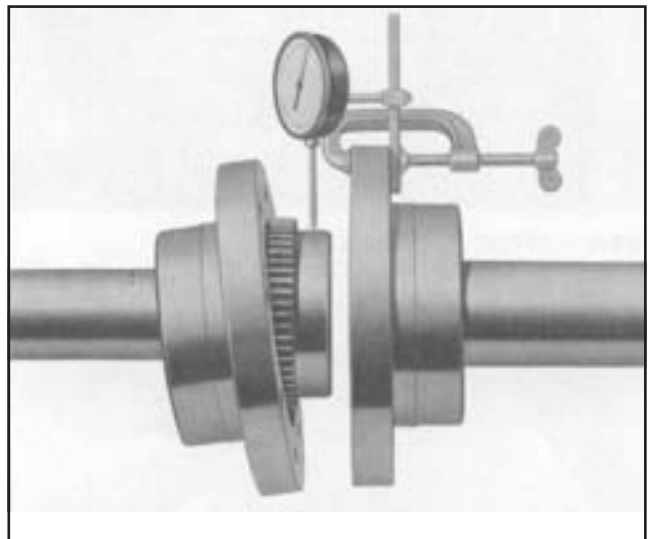

Figure 2 — Offset Alignment (Different Hub Styles)
- A. MOUNT DIAL INDICATOR — Securely attach dial indicator to hub most easily rotated with a magnetic base or C-clamp. Be sure that all connections are tight and mounting device is rigid. The probe of the type of indicator shown in Figure 2 should be perpendicular to the shaft center line for the offset alignment check.
C. OFFSET ALIGNMENT — Position dial indicator as shown in Figures 2, 4 or 5. Adjust indicator probe to mid-point of travel. (Sweep slotted diameter of Steelflex T & F hubs. Sweep flange diameter of Torus and Disc hubs.)